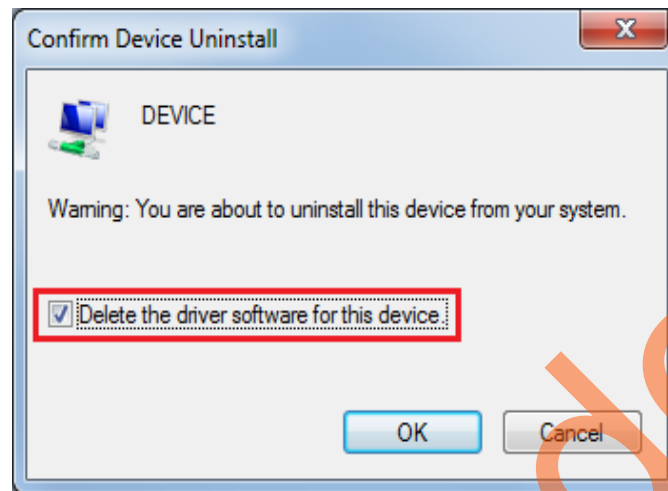

Figure 10 • Selecting Delete the Driver Software for this device check box in Confirm Device Uninstall Dialog
- b. From the **Confirm Device Uninstall** dialog, select **Delete the driver software for this device** and click **OK**. After uninstalling previous Jungo drivers, make sure that the PCIe Device is detected in the **Device Manager** window. Figure 10 shows the **Delete the driver software for this device** check box in the **Confirm Device Uninstall** dialog.